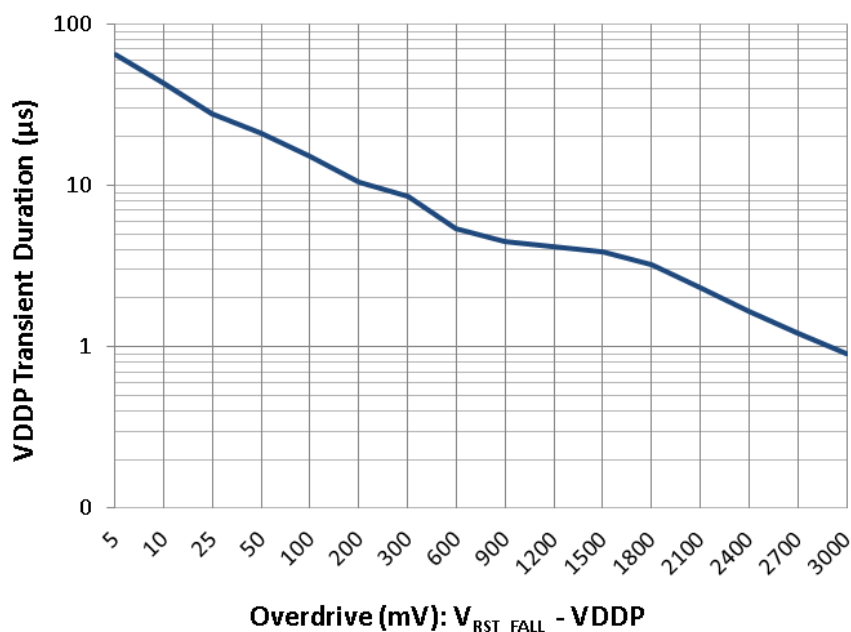

Figure 11-1: Typical Reset Generator Timing vs. Overdrive
- Transient V_{DDP} events shorter than the minimum t_{RST_MIN} value are guaranteed to be ignored. The typical dropout time required to trigger the reset generator varies with overdrive, as shown in Figure 11-1. In this figure, a V_{DDP} dropout below the curve will not cause the \overline{RESET} pin to assert.